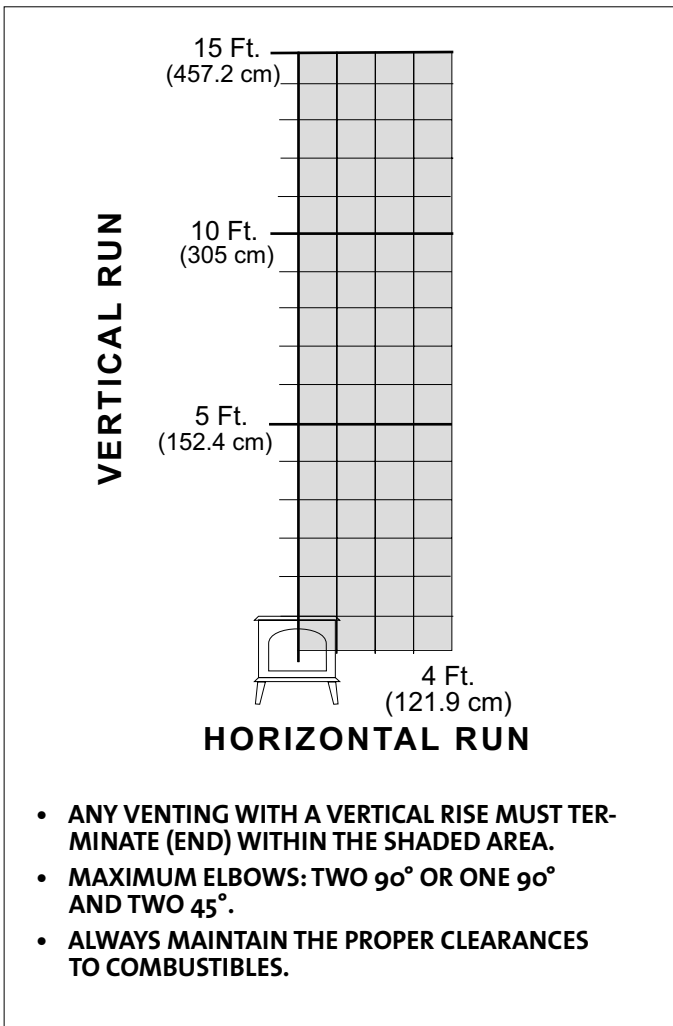

Figure 7. Vent Termination Diagram - any termination must fall within the shaded area dimensions.
- The termination should fall within the shaded area of the grid depicted in fig.7 below. Maximum Vertical must not exceed 15 ft. (4.57 m) measured from the top of the stove.
- A horizontal termination must fall within the shaded area illustrated in fig. 7, Vent Termination Diagram.